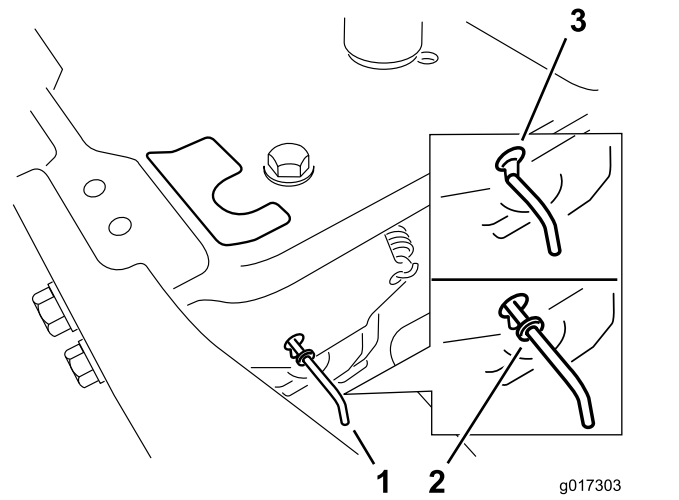

Figure 19
Move the bypass levers rearward through the key hole and down to lock them in place as shown in Figure 19.
4. Move the bypass levers forward through the key hole and down to lock them in place (Figure 19).